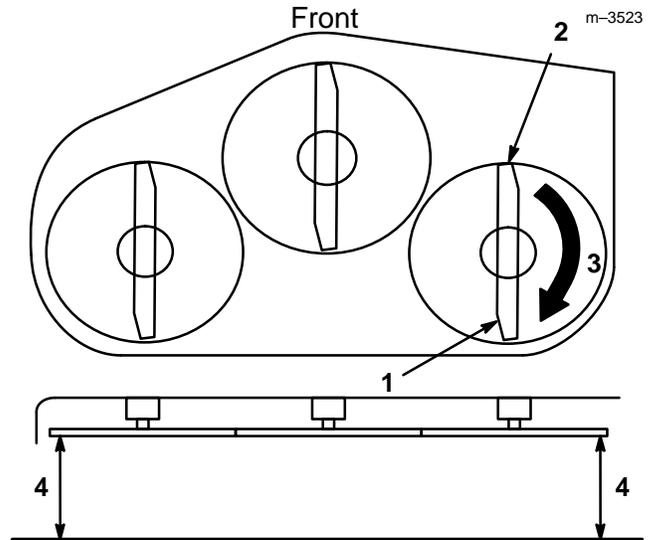
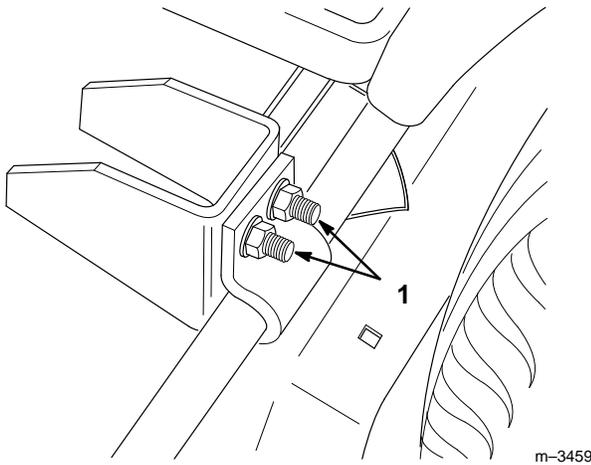

Figure 15
Figure 17
2. Carefully rotate one of the blades so it is facing front and rear (Fig. 15).
3. Measure the distance from the front tip of the blade (Fig. 15) to the flat surface. Then carefully rotate the blade tip until it is in the rear position. When the blade tip is in the front position, it should be 1/8" (3 mm) lower than when it is in the rear position.
Equalize side-to-side cut by adjusting the two carriage bolts (Fig. 17) on the mower. Check height of blade at outside blade tips as shown (Fig. 15).
- Check the slope of one of the blades (Fig. 15).